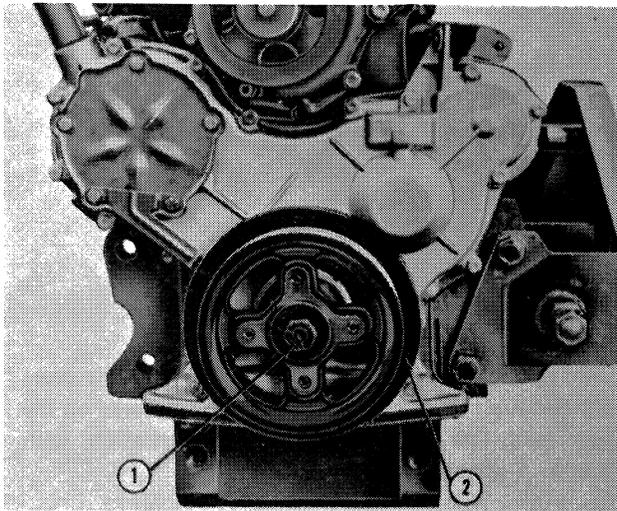
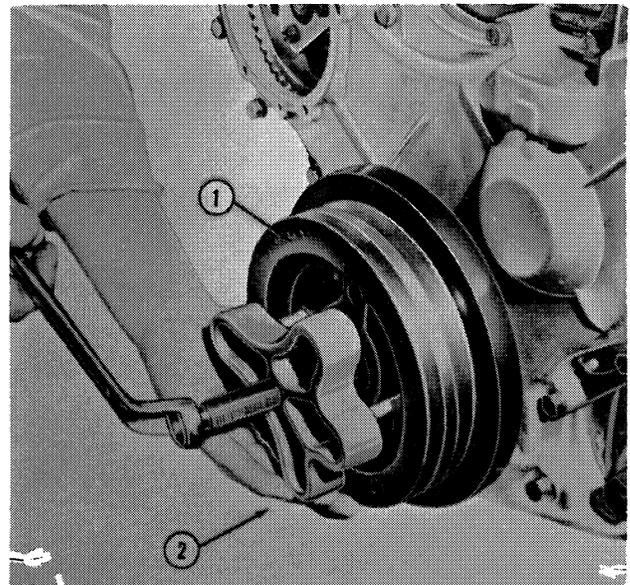

Figure 22
Figure 23
1. Remove the fan and water pump belts. Remove the bolt and washer from the crankshaft pulley, Figure 22, using Puller No. 518 and Shaft Protector No. 625-1, as shown in Figure 23. To use the puller for this purpose, 7/16" x 14 UNC bolts have to be used and the slots in the puller enlarged.